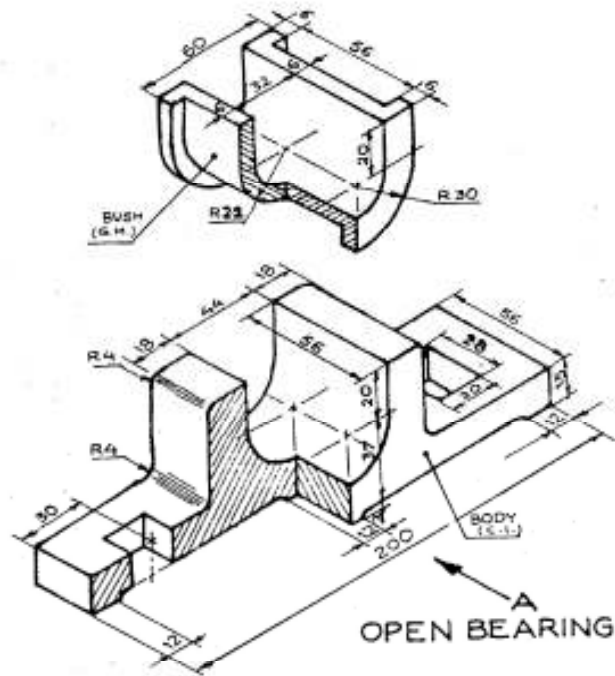

Fig. 1
3. The Fig. 1 shows the details of an "Open Bearing". Draw to scale 1 : 1, the following views of the assembly.